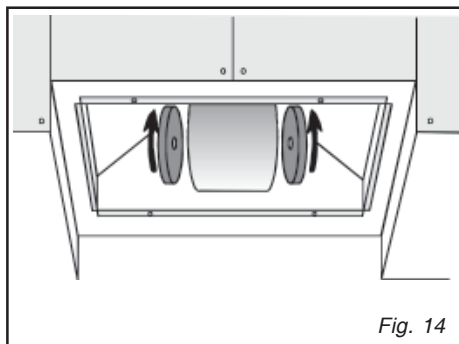

Fig. 14
• Replacing the charcoal filter (Fig.14)
Then remove the charcoal filter (fig. 14):